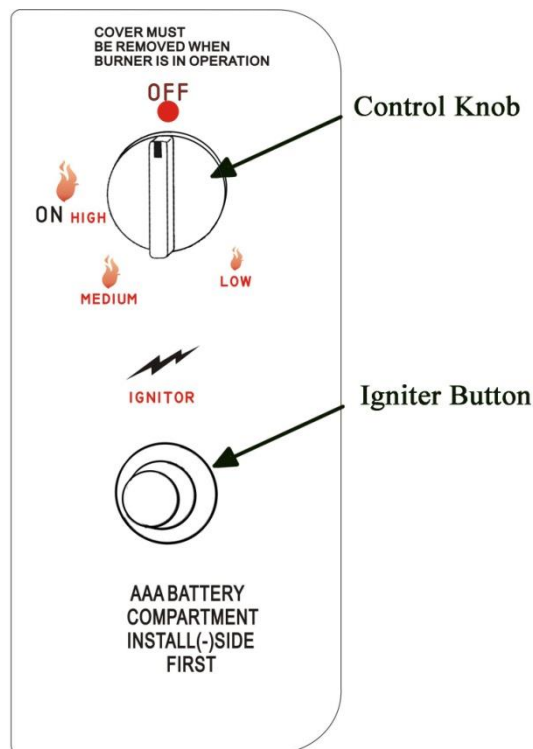

Figure 18
1. Locate the control and igniter panel. Make sure the control knob is in the “OFF” position. See Fig. 18. Open the tank door and open the tank valve all the way.
2. Push in the igniter button. You will hear a slight clicking sound. With the igniter button pushed in, push and turn the control knob to the “ON” position. The fire should light within a few seconds. Once the flame is lit, release the igniter button and continue to hold the control knob in for 10 to 15 seconds. Release the control knob. The control knob should pop back out and the fire should remain lit. Note: If the fire does not light, turn the knob to the “OFF” position and wait five (5) minutes before trying again.